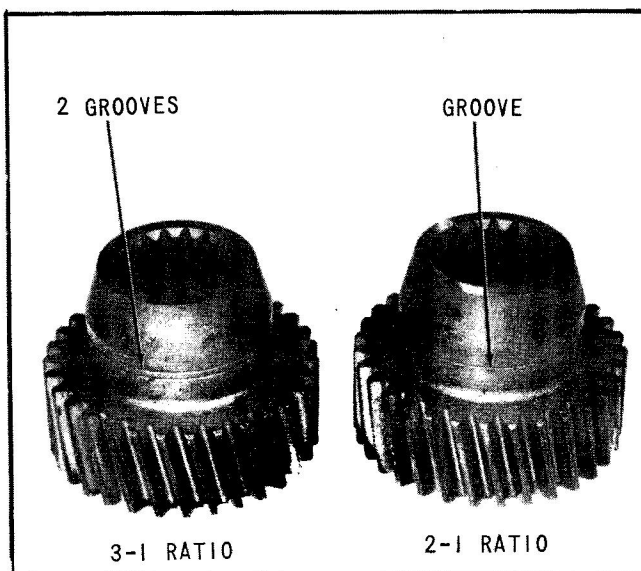

Fig. 64 Sun Gear Identification
2. Install sun gear over splines of forward and reverse transmission output shaft and replace snap ring to retain sun gear, (Fig. 26). Use correct sun gear, (Fig. 64).
3. Assemble sun gear over splines of forward and reverse transmission output shaft and replace snap ring in groove of output shaft, (Fig. 25). Use correct sun gear as shown in (Fig. 64).